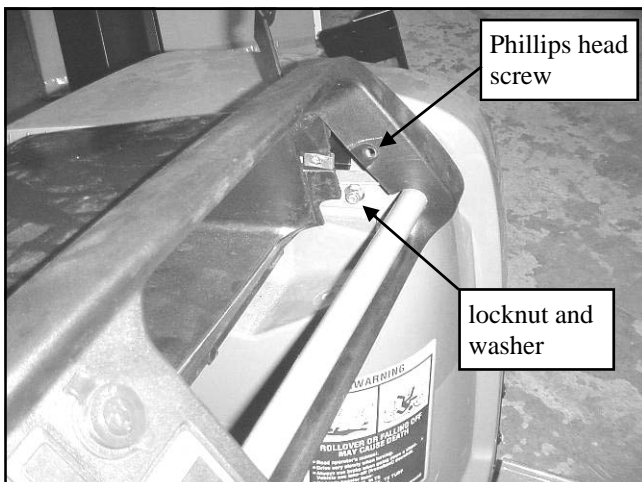

Fig. 4.2
4.2 To install the front bracket on the passenger's side, pivot the glove box out of the way by removing the two (2) Phillips head screws holding it in place. Save these two screws for re-installation later. Install the washer and locknut onto the carriage bolt as shown in figure 4.2.